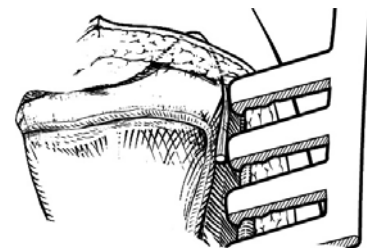

Fig. 3
**TIP:** Radial column exposure may be facilitated by releasing the brachioradialis insertion from the radial styloid (Fig. 3).